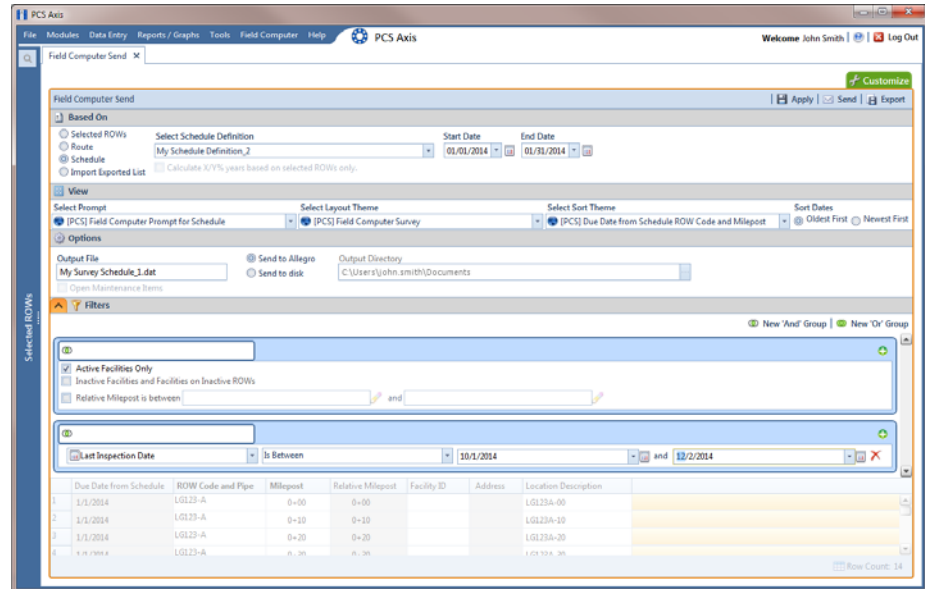

Figure 13-12. New 'And' Filter Group
- 16** To filter records in the grid and in the schedule sent to the Allegro based on a subset of records that meet *all* filter conditions, complete the following steps to add a new AND filter group (Figure 13-12, page 574):